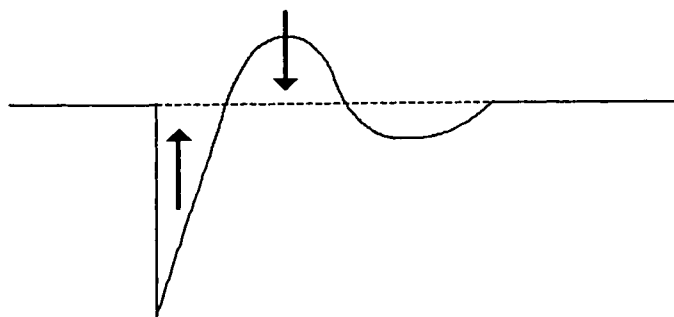

Figure 20: Adjustment principle
- Adjust the difference signal within specification, with potentiometers 'TC2' and 'BW2' on the X-master Copley-274 Controller, see figure 20 for the adjustment principle.
3. Connect the current probe device in the X chain according to figure 20.